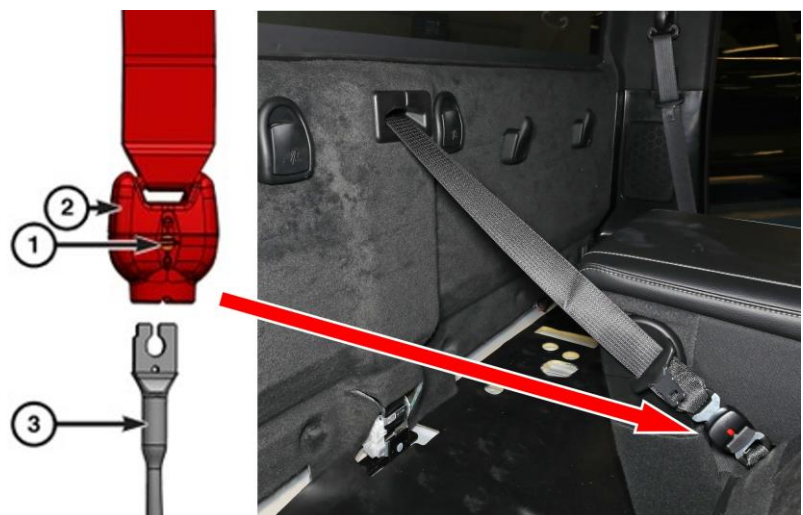

Figure 6 – Seat Belt Quick Connect
5. Using a flat blade screwdriver rotate the tensioner quick connect screw counterclockwise to disconnect the seat belt retractor lower buckle to the tensioner cable (Figure 6).
22. Insert lower tensioner cable into the front seat belt retractor lower buckle until it latches into lock position (Figure 6).